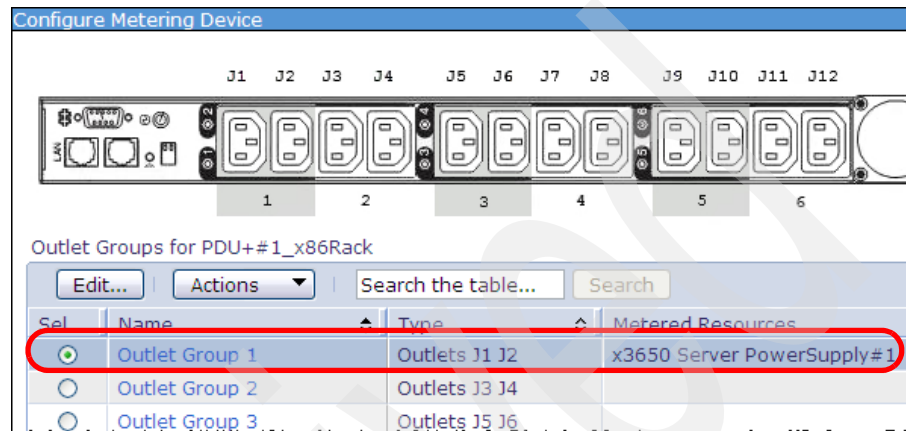

Figure 8-58 Associating x3650 Power Supply#1 with PDU+#1 OutletGroup1
- The x3650 Server Power Supply#1 metered resource is associated with PDU+#1\_x86Rack Outlet Group1, as shown in Figure 8-58. (Refer to “Assigning systems to an outlet group” on page 385 for information about how to configure a metering device.) Also, the x3650 Server Power Supply#2 metered resource is create following the same procedure.